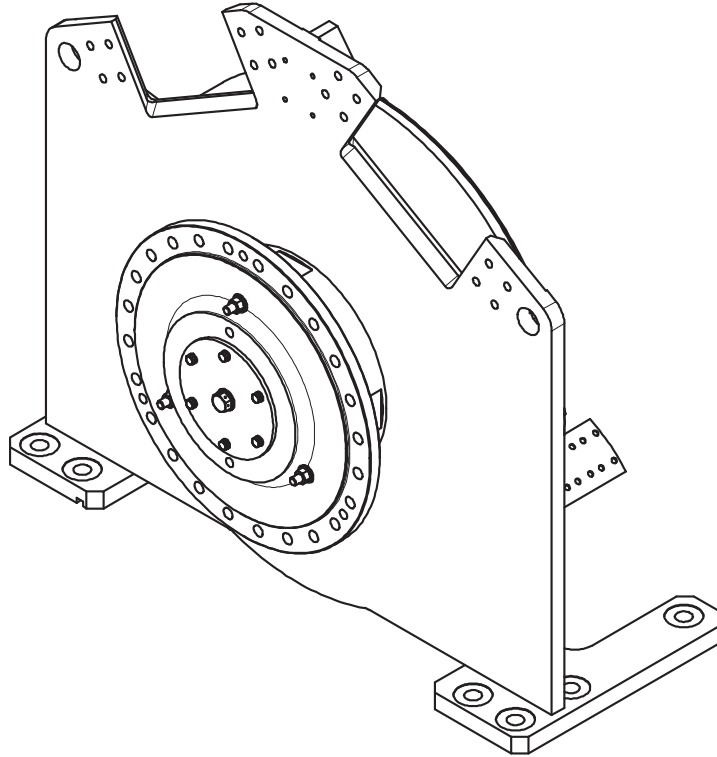

Figure 5: ODS Shaft Pedestal Assembly (with Drum Removed)
16. Install and torque bolts and lock washers (24) on the ODS of the drum. (See Figure 5).